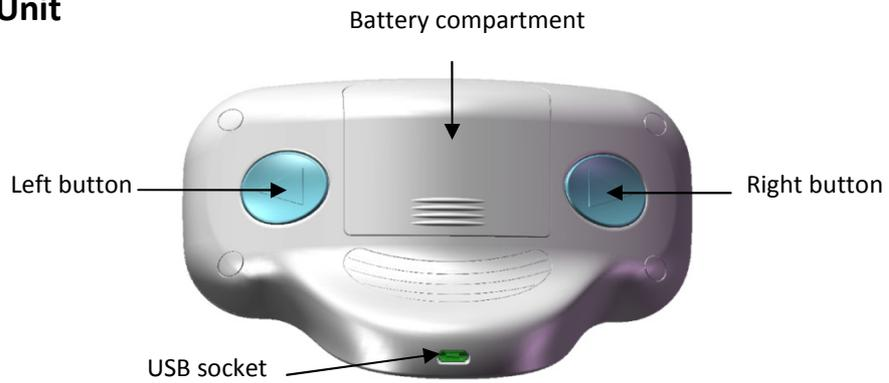

Figure 1. MilkSense top view
2. Hold the device as shown in Fig.7 and press the button that is located below your 3rd finger [on button "Left" or "Right" (Fig 1) according to the side of breast that you choose]. A hand symbol (  ) and the chosen side letter ("L" or "R") appear on screen, and the device waits for body contact. If you change your mind about the side you want to measure, you can press the other side button and change the holding hand. In order to abort the procedure, you may press on any of the inquiry buttons beside the display. After 30 seconds the display turns off and you will need to press the Left/Right button again in order to resume measurement.